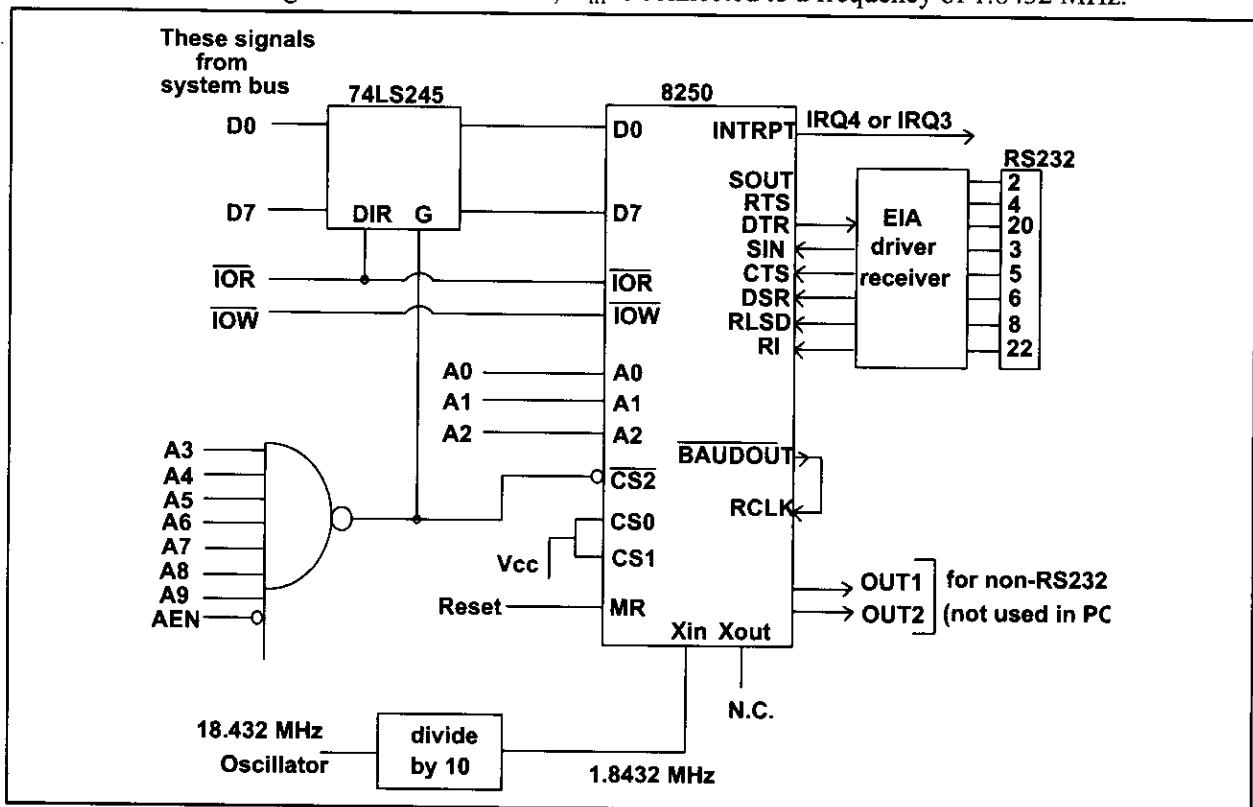

Figure 17-10. 8250 Connection to the IBM PC Buses
This is the bidirectional data bus connected to the data bus of the CPU. Notice in Figure 17-10 that for the IBM PC COM port the 74LS245 data bus transceiver is activated only for the I/O address range of 3F8H - 3FFH.
- (a) Find the I/O port address range set aside for COM0 of the IBM PC in Figure 17-10.